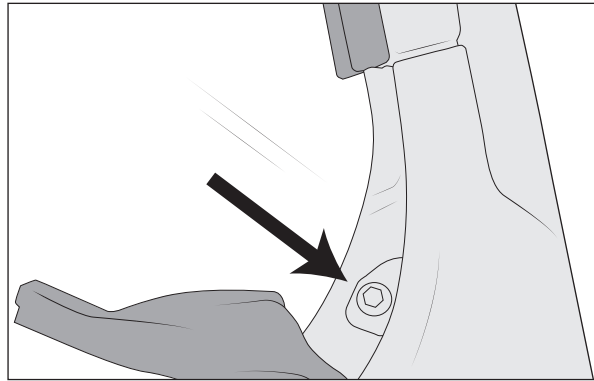

Figure 5
- A. Peel back the weather seal at the bottom corners of the windshield and remove the bolt that is fastened to the hinge (fig. 5).